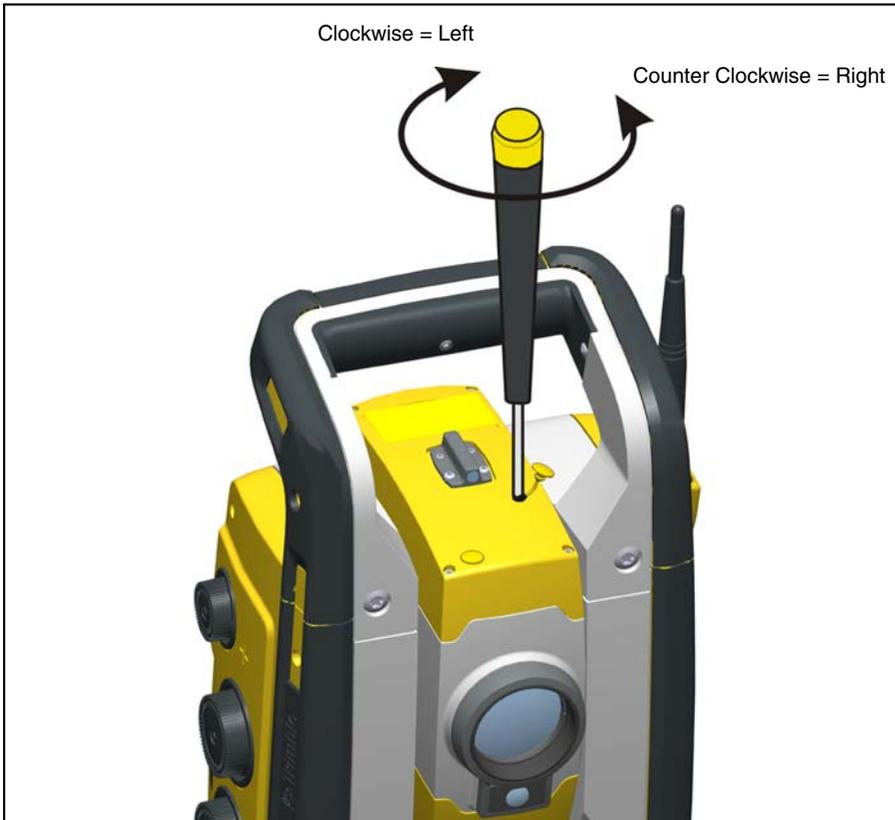

Figure 4.22 Horizontal position adjustment
3. To correct the horizontal position of the laser spot, insert the allen key into the horizontal adjustment port and turn it as shown in Figure 4.22.